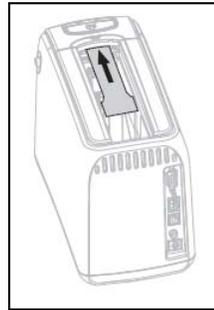

Figure 5
- 3e.)** Refer to Figure 5. Insert the cleaning card into the media chute until ¼ inch is visible from the front of the printer.